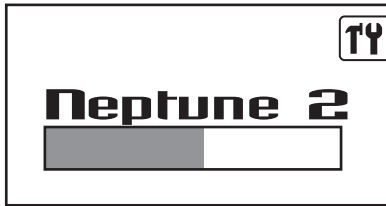

Figure 11 Neptune Splash Screen
4. Continue to push the display button until the Neptune 2 splash screen appears. The system setup screen will appear after the splash screen (see figure 11).